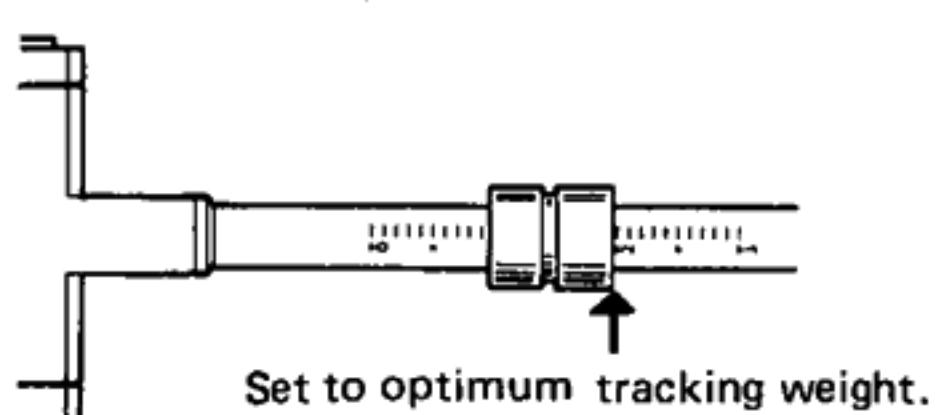

Fig. 5
- Return the tonearm to the arm rest. Adjust the tracking force weight to the desired weight. See Fig. 5